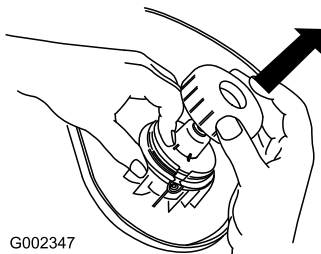

Figure 13
2. Remove the cap and spool (Figure 13).